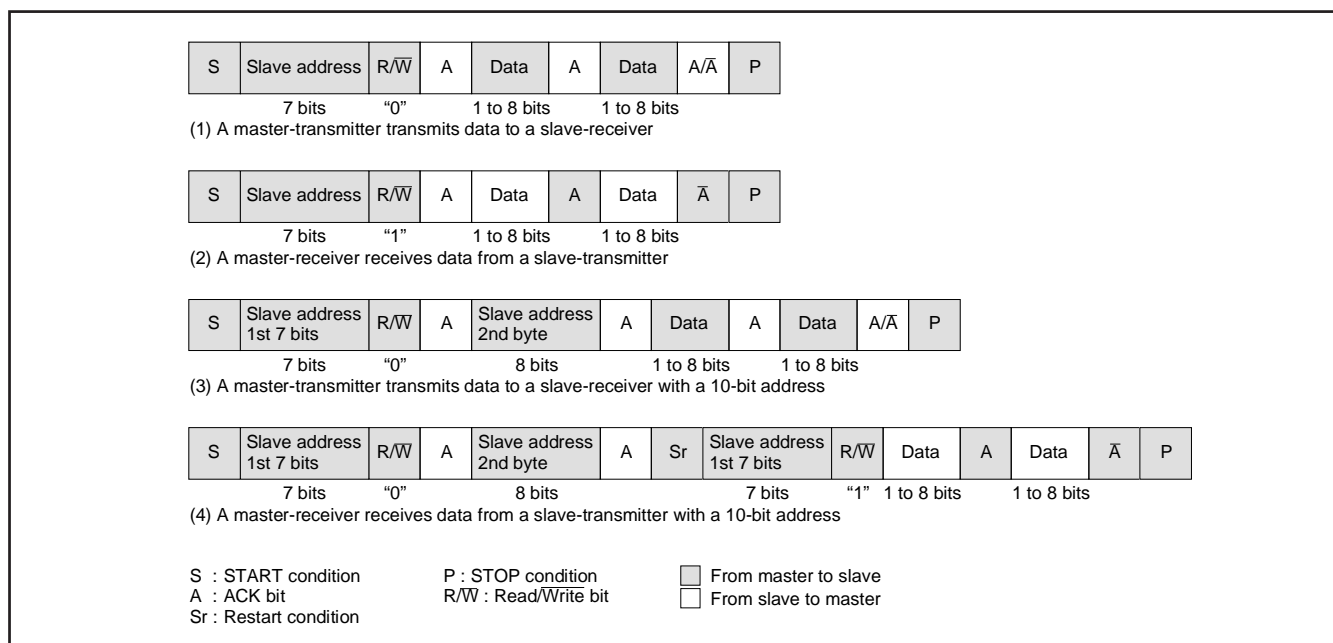

Fig. 8.6.12 Address Data Communication Format
(1) 7-bit addressing format
To support the 7-bit addressing format, set the 10BIT SAD bit of the I²C control register (address 00DA₁₆) to "0." The first 7-bit address data transmitted from the master is compared with the high-order 7-bit slave address stored in the I²C address register (address 00D8₁₆). At the time of this comparison, address comparison of the RBW bit of the I²C address register (address 00D8₁₆) is not made. For the data transmission format when the 7-bit addressing format is selected, refer to Figure 8.6.12, (1) and (2).
(2) 10-bit addressing format
When the first-byte address data matches the slave address, the AAS bit of the I²C status register (address 00D9₁₆) is set to "1." After the second-byte address data is stored into the I²C data shift register (address 00D7₁₆), perform an address comparison between the second-byte data and the slave address by software. When the address data of the 2nd byte matches the slave address, set the RBW bit of the I²C address register (address 00D8₁₆) to "1" by software. This processing can match the 7-bit slave address and R/W data, which are received after a RESTART condition is detected, with the value of the I²C address register (address 00D8₁₆). For the data transmission format when the 10-bit addressing format is selected, refer to Figure 8.6.12, (3) and (4).